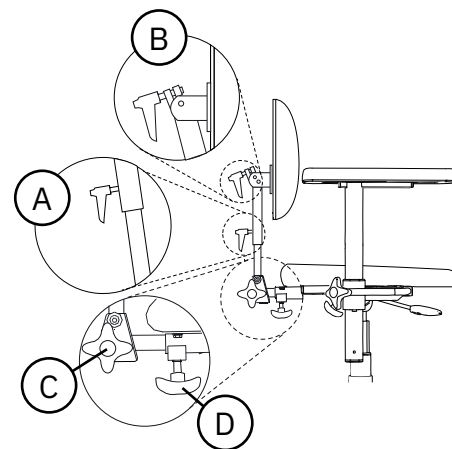

Figure 5.9. Medic backrest mechanism.
Medic can be adjusted in height (A), angle of back rest (B), angle of back rest mechanism (C) and depth (D), see Figure 5.9. The back recliner can be adjusted in the range of 15° forward to 45° backwards.